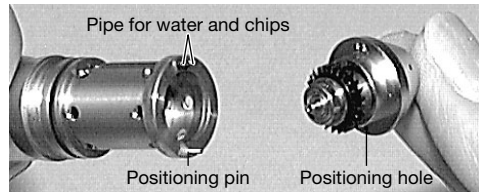

Fig.17
- ③ When mounting a new cartridge, align the position of the pipe for water and chips, and the positioning pin with the hole of the nose hood of the cartridge and push in straight. (Fig.17)
- ④ Finally, tighten the cartridge retainer securely.